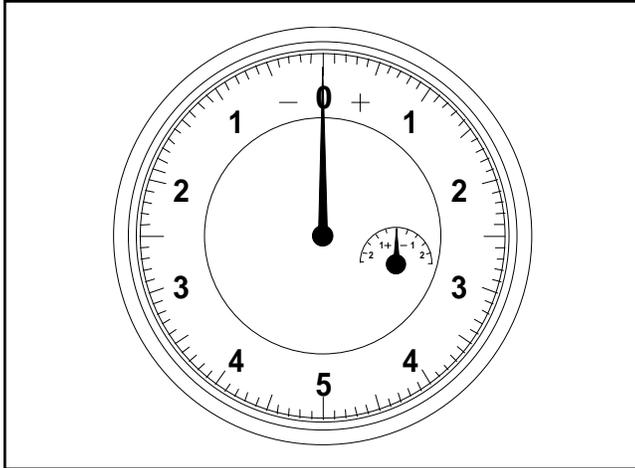

Figure 2. Pin Depth Gauge
- a. ***Beware of Destructive Pin Depth on Mating Connectors.*** Measure the pin depth of the connector that mates with the RF component, *before* mating. Use an ANRITSU Pin Depth Gauge (Figure 2, Table 1) or equivalent. Based on RF components returned for repair, destructive pin depth on mating connectors is the major cause of failure in the field. When an RF component connector is mated with a connector having a destructive pin depth, damage will likely occur to the RF component connector. (A destructive pin